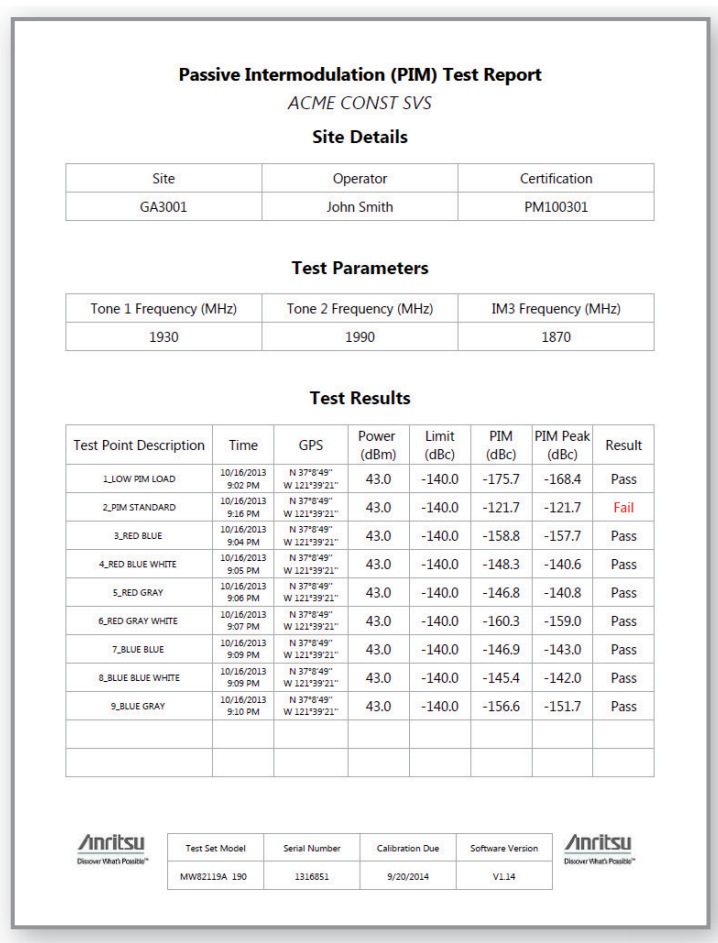

Figure 7-11. Generated Tabular PIM Sweep Report
- 3. A window opens to provide you with the opportunity to name the report and to select the save location. The select **Save**. See Figure 7-11 on page 7-12 for a report example
Figure 7-11 illustrates a tabular PIM sweep report.